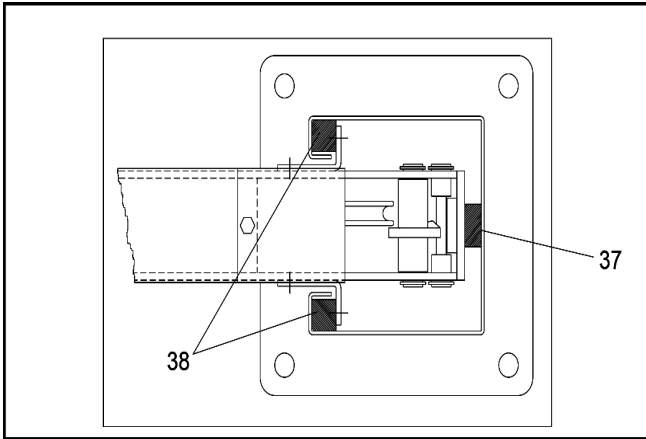

Fig 56 Shoe Adjustment.
Lower the platform (see operating instructions) until it is about 30 cm from the ground. Position the posts so that the nylon skates (rear 37 and side 38) are in contact with the posts (fig.56).
**WARNING -IMPORTANT FOR PLAY DETECTOR: CHECK THAT THE COLUMNS ARE CORRECTLY ASSEMBLED TO THE NYLON SKATES, AS INDICATED IN FIG. 56.**